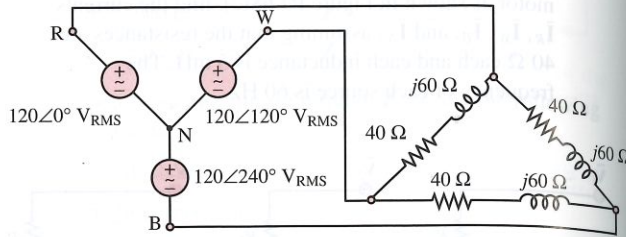

Figure P7.74
7.74 Find the apparent power and the real power delivered to the load in the Y-Δ circuit shown in Figure P7.74. What is the power factor?